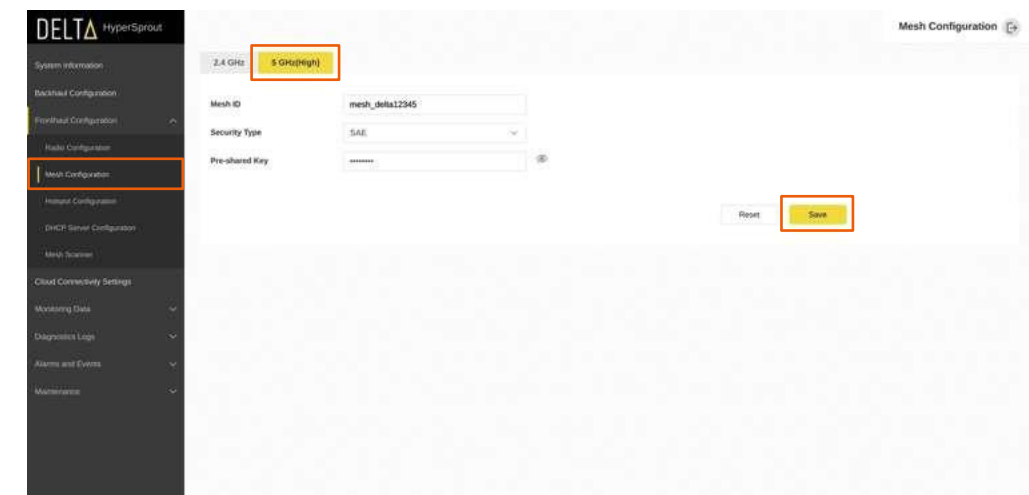

Figure 45: Mesh - 5Ghz
- b. To perform 5GHz mesh-related configurations, navigate to **Fronthaul Configuration** and then select **Mesh Configuration** and **5GHz (High)**, where we can configure **Mesh ID**, **Security Type**, and pre-shared key. Once the configuration is done, click the **Save** button to save the required changes in 5GHz. See *Figure 45*.